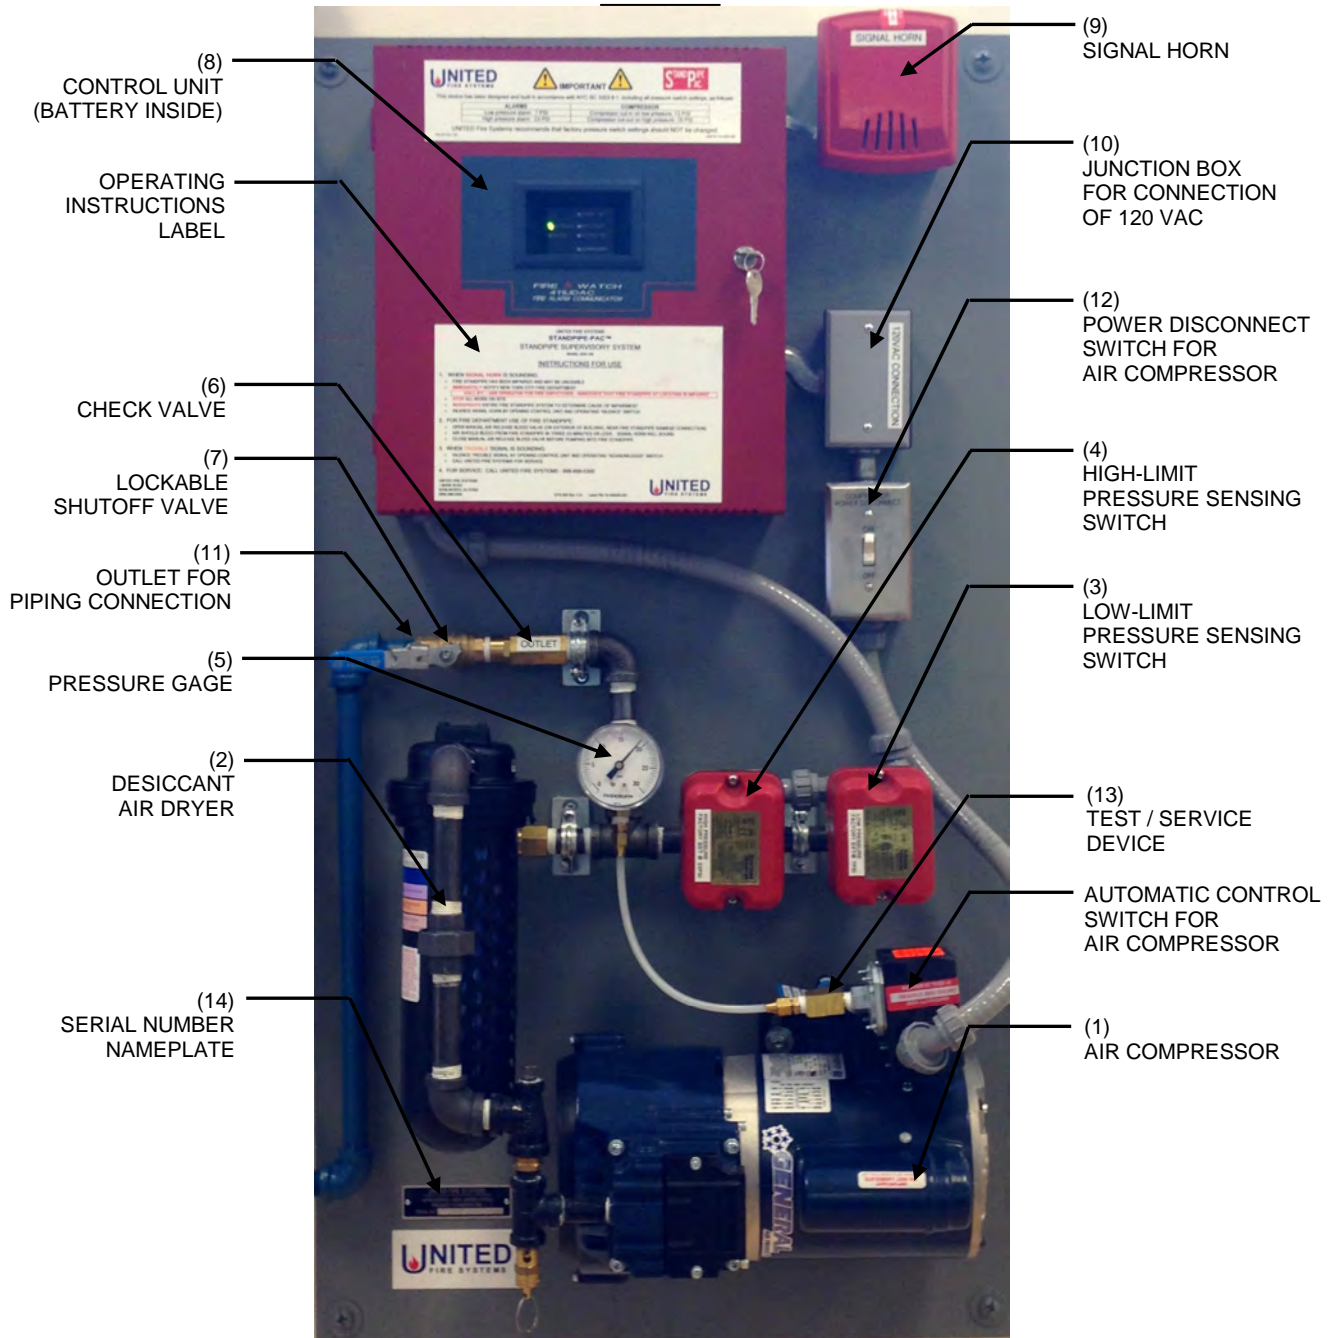

Figure 1 – STANDPIPE-PAC™ Unit
See Figures 1 and 2. **STANDPIPE-PAC™** consists of the following:
3.3.4.3. Power Wiring. See Table 3. Choose minimum conductor sizes and overcurrent protective device based on total current shown in table. Connect power in junction box provided for the purpose – see Figure 1. When connecting power, ensure circuit breaker is OFF. Do not turn on circuit breaker until installation is complete and system is ready for commissioning.